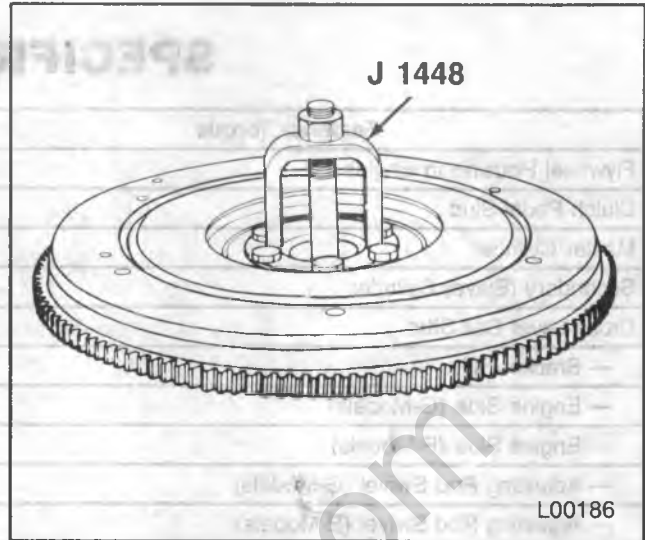

Figure 13 — Removing the Pilot Bearing
8. Cover assembly (213) and the driven plate (214).
9. Pilot bearing (217) if it is worn or damaged.
- Use J 1448 or J 23907 as needed (figure 13).
10. Screws (218) and straps (219).
11. Pressure plate (220).